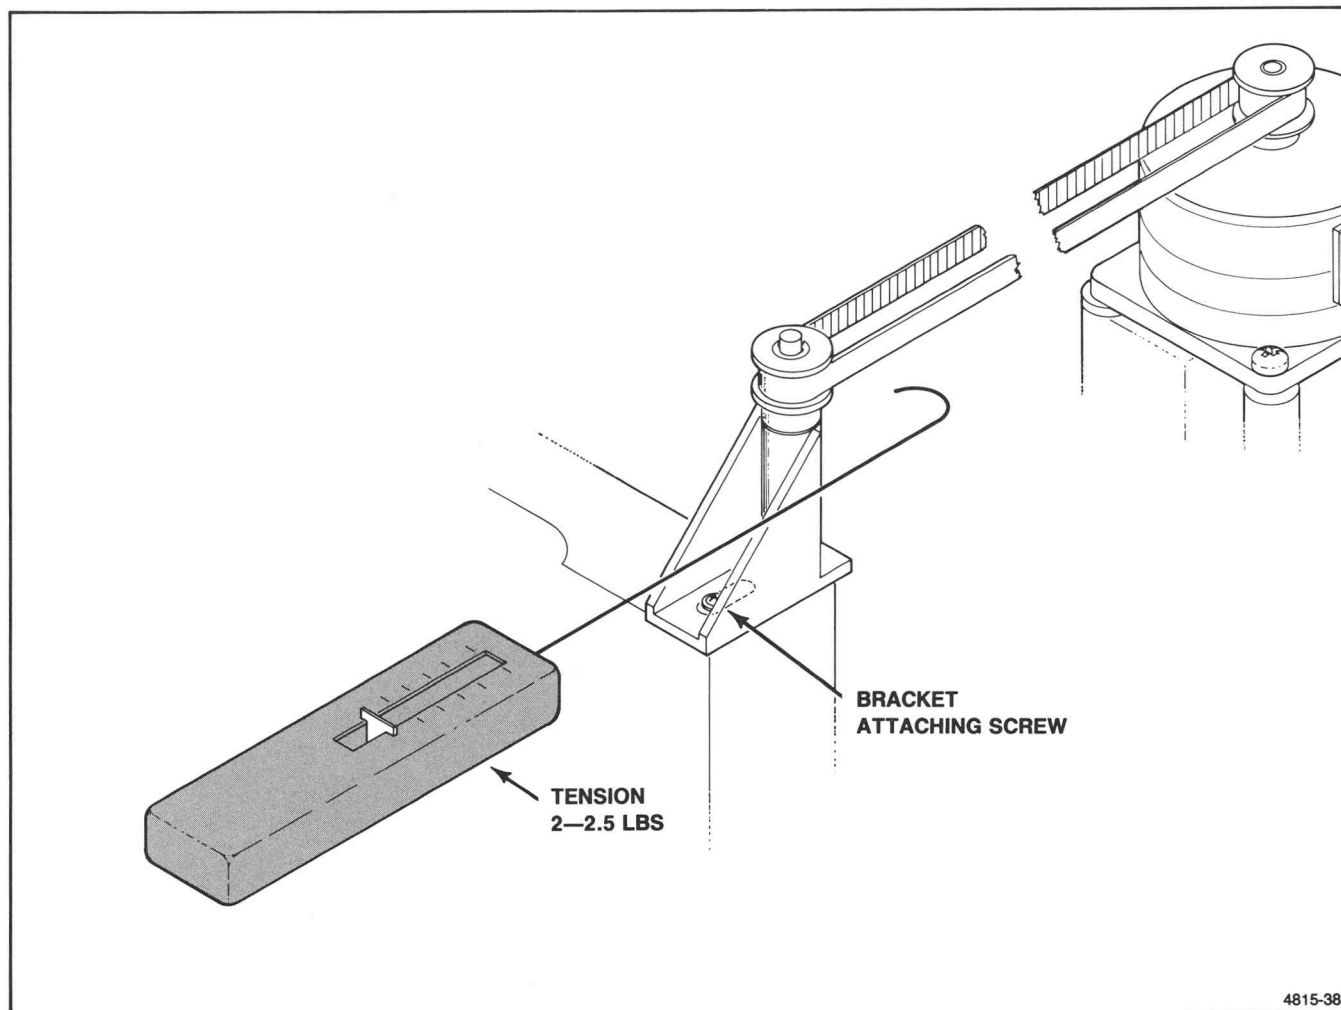

Figure 5-3. Carriage Drive Belt Tension Adjustment.
Adjust the tension of the head carriage drive if it is loosened or removed. This tension setting ensures smooth movement of the head carriage during imaging. See Figure 5-3.
2. Attach the scale as shown in Figure 5-3, and pull toward the left side of the copier.